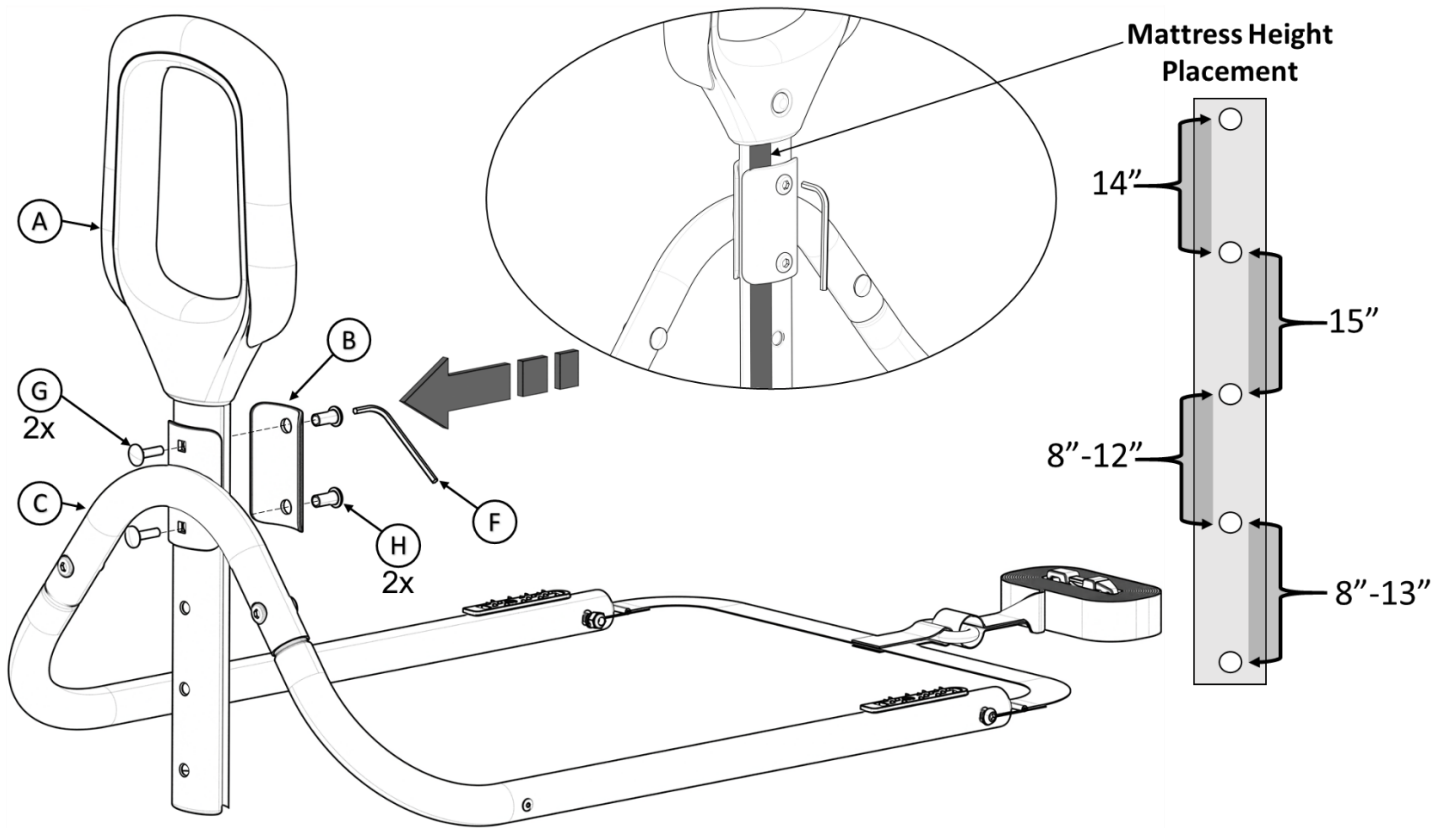

FIGURE 3
3. Using the **Mattress Height Placement** determine the appropriate holes in **A** and align with the holes in **C** as shown in **FIGURE 3**. Align holes in **B** and secure with **G** and **H** with the tool provided (**F**).